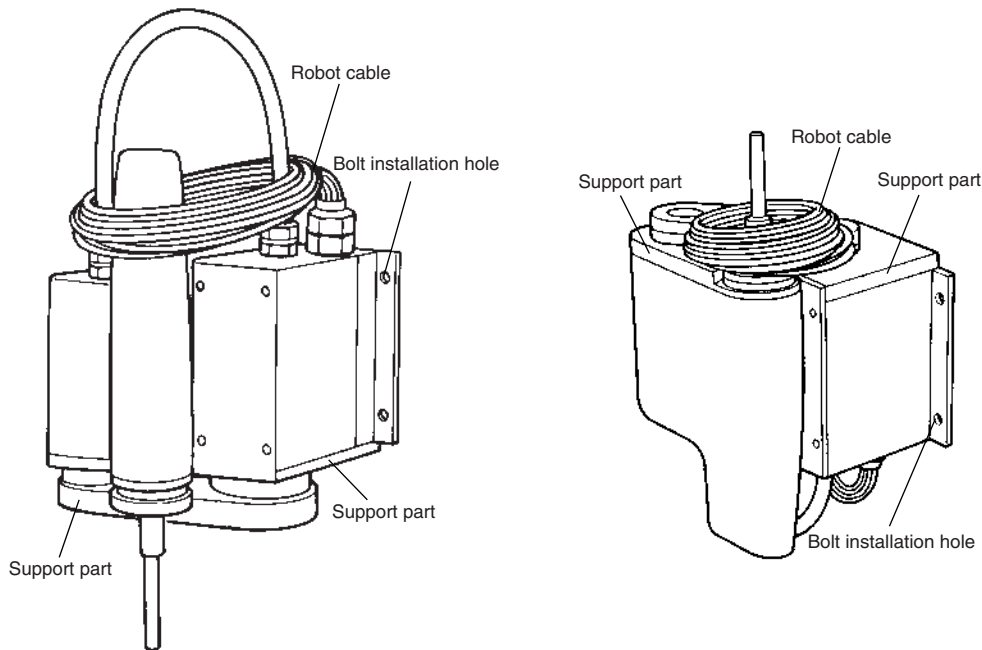

Fig. 2-3
- 1) Fold the X and Y axis arms as shown in Fig. 2-3, and wind the robot cable around the machine harness, then fasten the robot cable with adhesive tape so as not to cover the bolt installation holes.